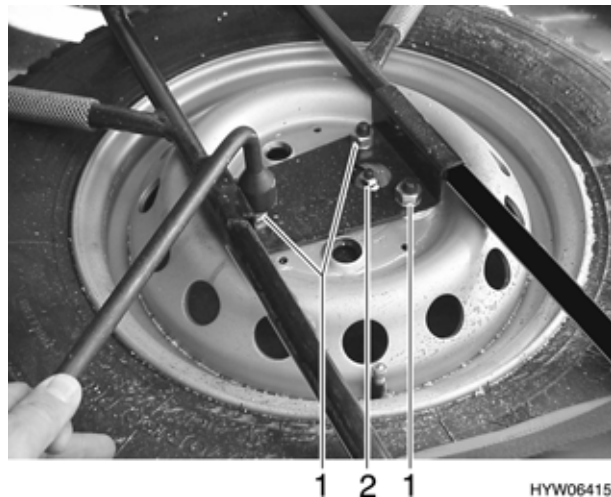

Fig. 181 Spare wheel, support screw
- Undo securing bolts (Fig. 181,1).
- Undo bolting (Fig. 181,2) for fixing in position.